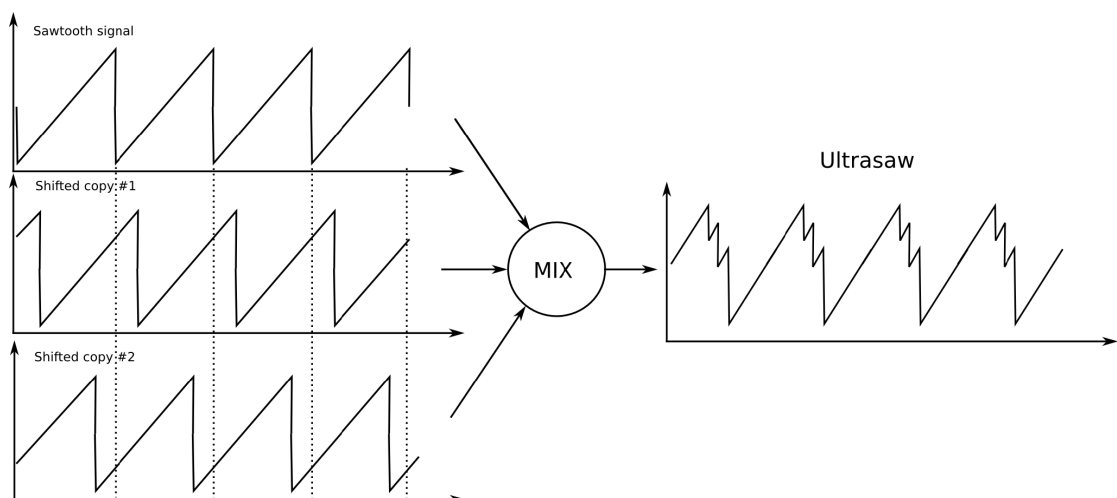

Figure 20
**The Ultrasaw** builds two phase-shifted copies of the basic sawtooth signal. These copies have independent and ever-evolving phase shifts with respect to each other, and are eventually mixed with the sawtooth signal. This results in a lively, rich, and thick ensemble effect. Figure 20. On the MicroBrute you can control the Ultrasaw rate with the LFO, ENVELOPE or KEYBOARD CV OUT by patching it in the MOD MATRIX.